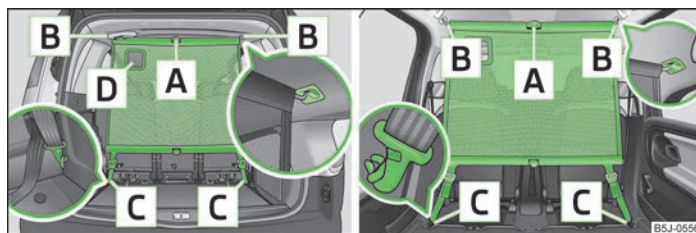

Fig. 48 Using the net partition behind the front/rear seats
- First of all insert the cross rod into the mount **B** » Fig. 48 on one side and push it forward. In the same way, insert the cross rod into the mount **B** on the other side of the vehicle.
- Undo the belts on both sides and unhook the carabines **C** » Fig. 48.
- Press the red button of the joint **A** » Fig. 48- the joint becomes loose.
The opening **D** » Fig. 48 in the net partition is designed to feed through the three-point seat belt » page 107, *Seat belt for the rear middle seat*.